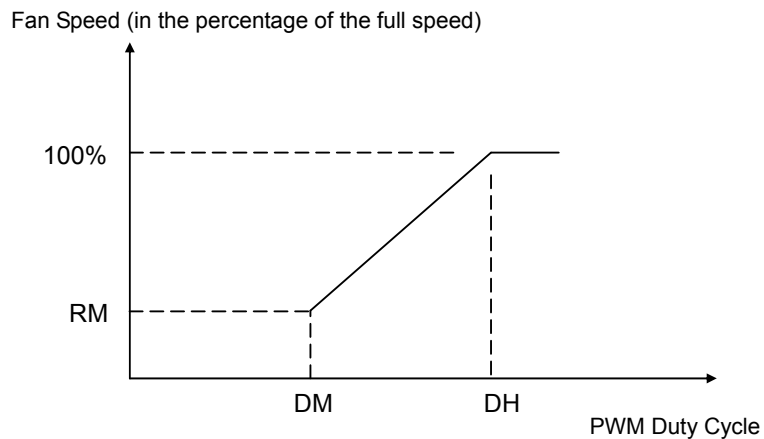

Figure 2. The Fan speed curve with PWM duty cycle.
- The fan speed can be controlled by external PWM input signal. The fan speed curve can be adjusted by setting appropriate voltage levels of the pins SEL, VZ, VM and VF. The typical fan speed curve is shown in Figure.2, which indicates that the full speed is achieved when the duty cycle of the PWM is DH (maximum PWM input duty), and RM ratio of the full speed (say, 50%, for example) is achieved when the duty cycle is DM (minimum PWM input duty). As for the duty cycle below DM, the fan will either stop or keep rotating at the constant speed RM ratio of the full speed, depending on the voltage level of SEL (stop when SEL= VDD and keep rotating at a constant speed when SEL=GND).